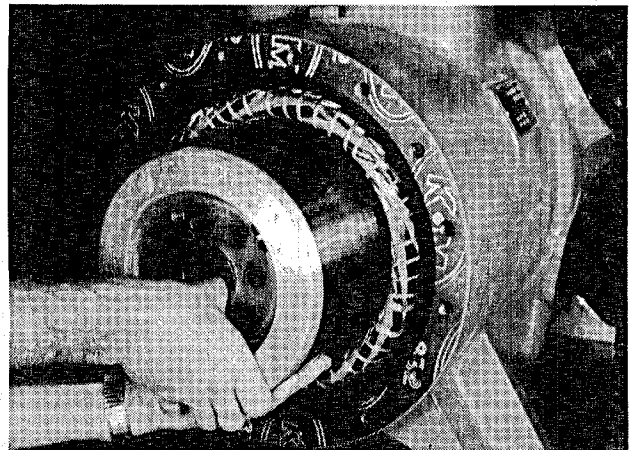

Figure 46
4. Ease the rotor off the crankshaft (Figure 46).